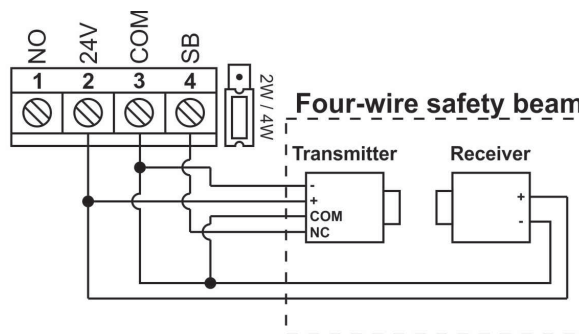

Figure 19B
- CENTURION i5 or equivalent four-wire Safety Beams (Figure 19B)